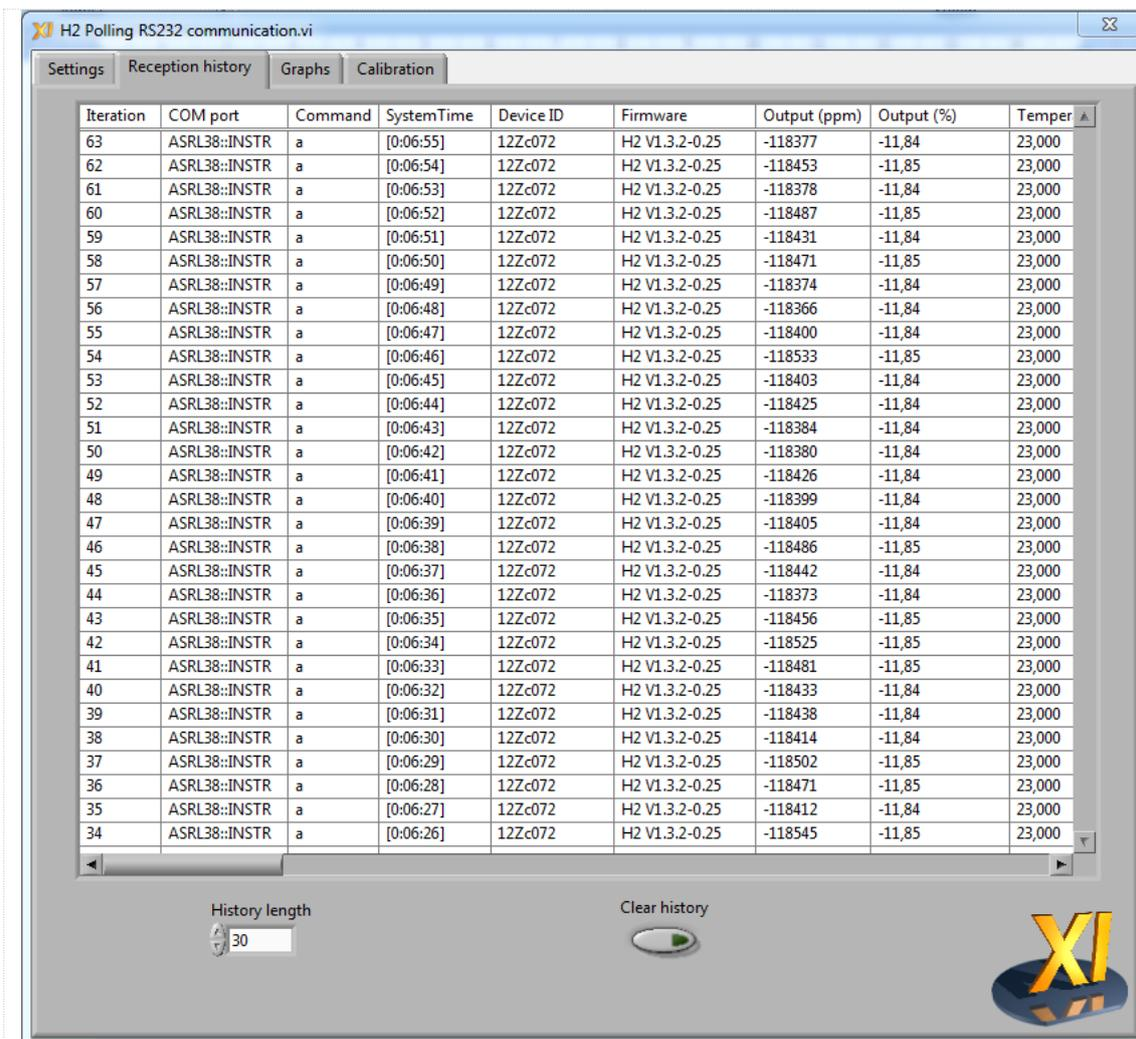
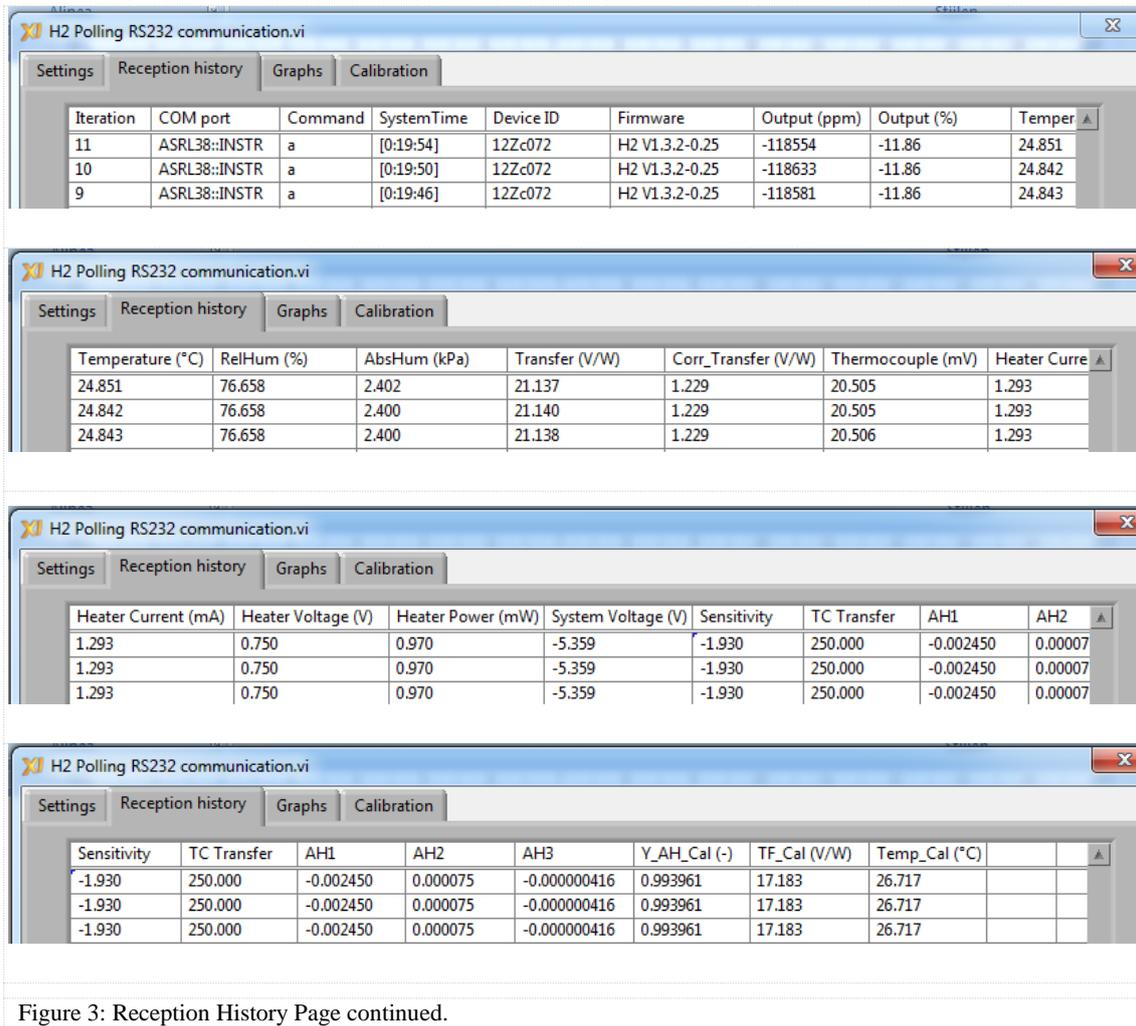

Figure 2: The Reception History Page
Figure 3: Reception History Page continued.
On the reception history page, the measurement data are shown as numbers, up to 30 lines, this can be changed by altering the **History length** window, see Fig. 2. Old data can be removed by pressing the **Clear History** button.
As can be seen in the most right column in Fig. 2, it can be that there are only zeros after the decimal separator, if this separator is a comma. This separator should be changed into a point(.), and then, trailing digits will appear, see Fig. 3. This can be done in the Country & Language part of the configuration screen.
In case of calibration for hydrogen (firmware starting with H2, as is the case here), the output is given as ppm and % H2 concentration. Figure 3 shows the Sensitivity (4th screen), for 0-4% hydrogen this is -1.93 %/% change in output for change in hydrogen concentration.
**RelHum** (Relative Humidity in %) is the RH measured by the separate RH sensor. In the 0.25 s version of the XEN-5310 (indicated by the 0.25 in the firmware version number), RH measurement is not performed and correction for humidity is not performed. The indicated value is invalid, as is the case in Fig.3.